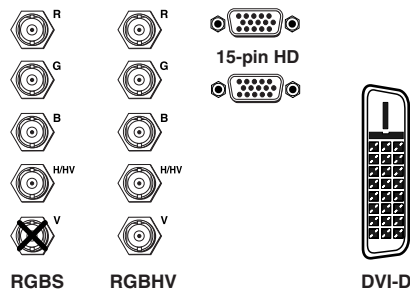

Figure 2-4 — Output connections
2. Use BNC connectors, 15-pin HD connectors, or a DVI connector to attach cables from the switcher to the output devices. Figure 2-4 shows the connection options.